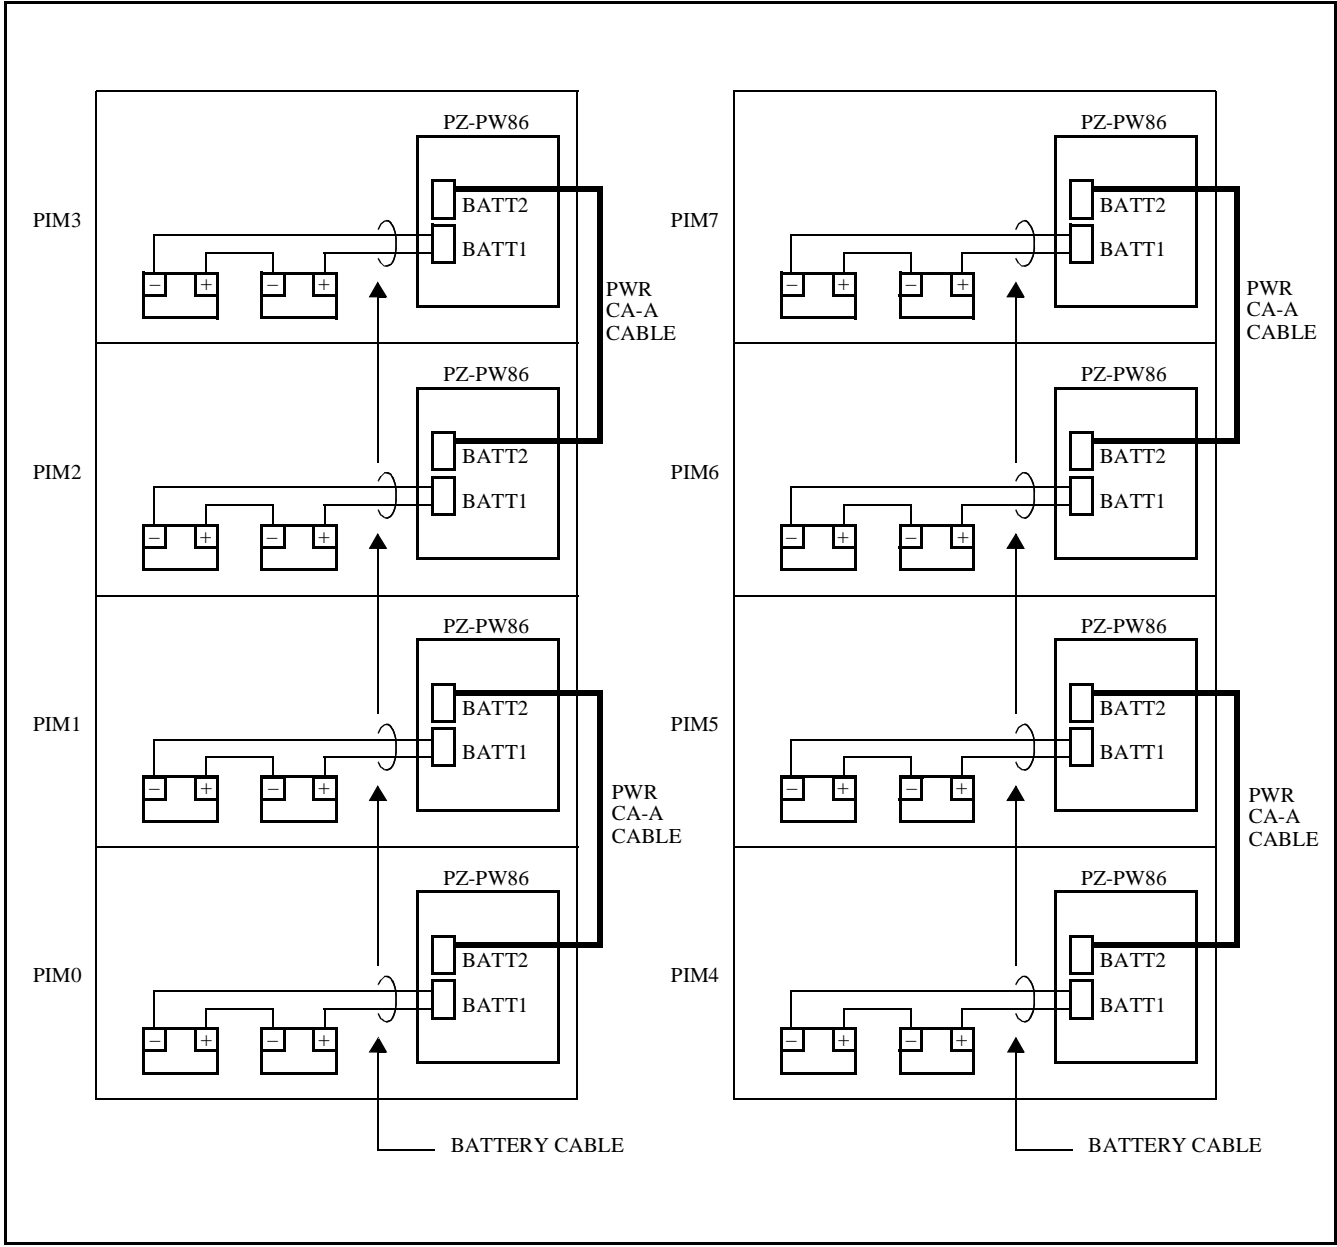

Figure 005-4: Internal Battery Connection for 8 PIMs Configuration
- (5) When the system is a multiple-PIM configuration, connect the PZ-PW86 Cards to each other using PWR CA-A cables, as shown in and Figures 005-4 or 005-5.